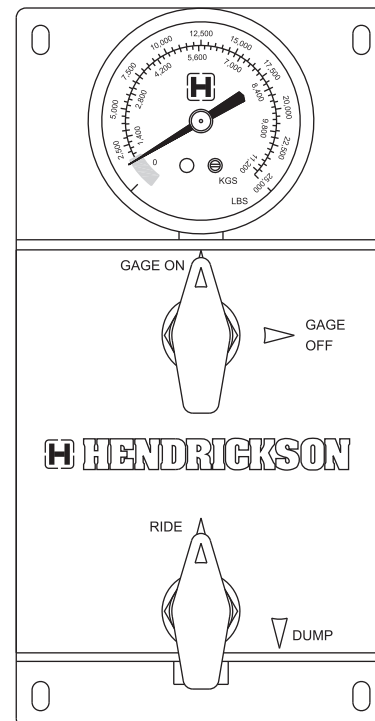

Figure 1. Gage valve in the GAGE ON position (shown with optional dump feature)
3. Rotate the gage valve (the upper ball valve if equipped with the optional air dump feature) counterclockwise to the GAGE ON position (figure 1).